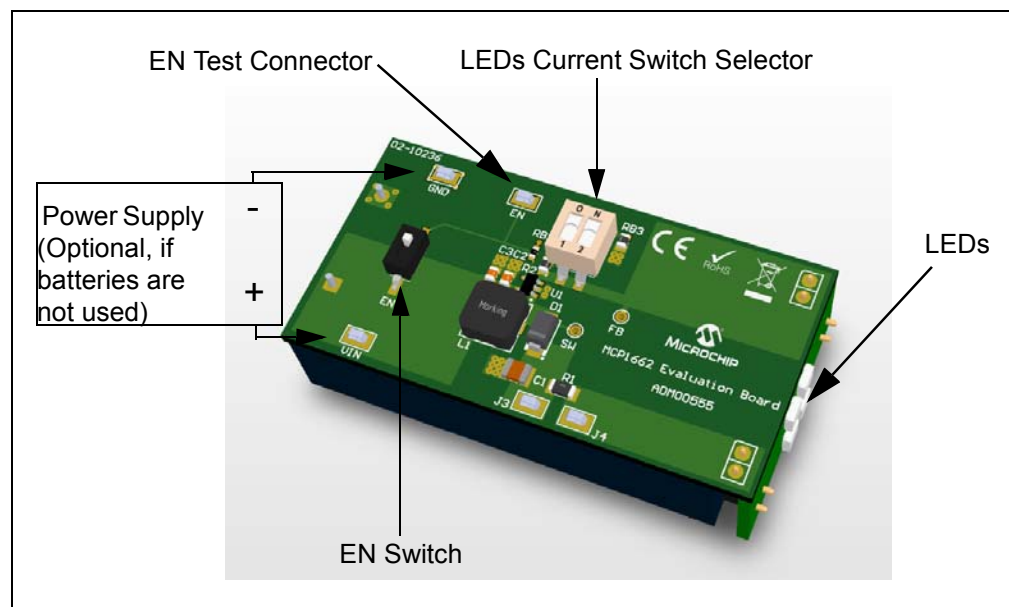

FIGURE 2-2: MCP1662 LED Driver Evaluation Board Setup.
1. Connect input supply as shown in Figure 2-2 or insert two AA batteries in the battery holder on the bottom side of the board. Respect the polarity of the batteries.